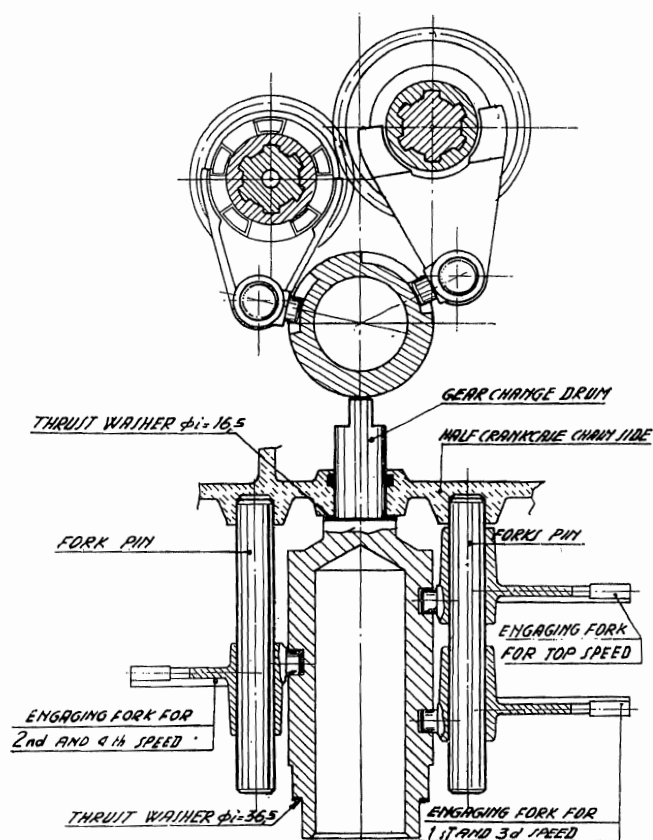

Fig. 74
Step No. 4. - (Assembly of Cam Drum and Gear-Engaging Forks). Take the cam drum with two (2) shim washers ($\varnothing i=16.5$ and $\varnothing i=36.5$ respectively). Insert drum into its place, checking to make sure that it rotates. Now insert the three gear-engaging forks into the appropriate gears then engage the forks into the drum. Lastly, insert the fork guides through the forks and into the crankcase bosses (see Fig. 74).